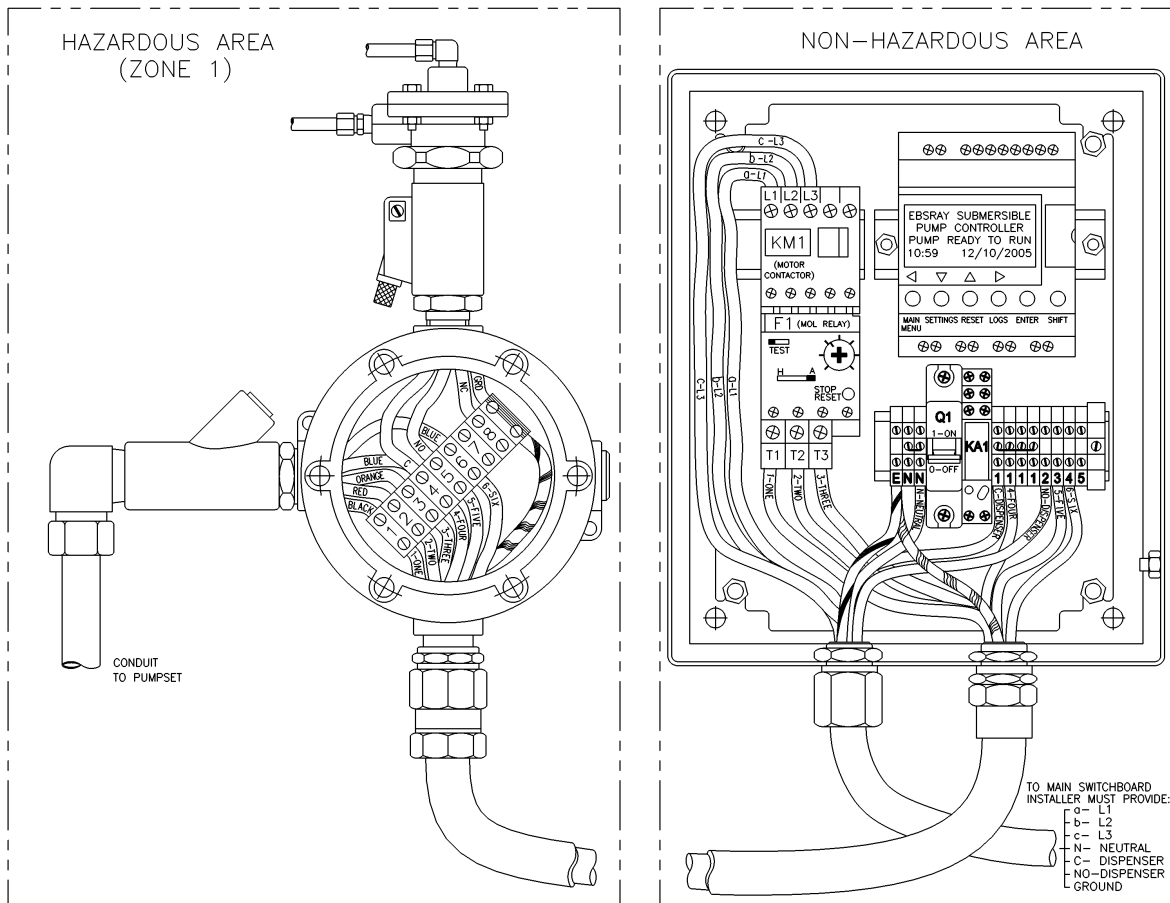

Figure 10
Typical electrical connections are as shown in the accompanying diagrams Figure 10 and Appendix C. Items provided by EBSRAY are suitable for use in the specified intended areas. Ensure that any substitute equipment supplied by others is certified and/or correct for the intended usage and location. Following is a brief description of the electrical wiring installation.
4. Connect leads from cable to terminal strip in Junction Box (See Figure 10) then refit Junction Box Cover and Gasket.
6. The wiring from the Junction Box is connected to the Pump Controller as follows: Cores One (1), Two (2) and (3) are connected to terminals T1, T2 and T3 respectively on the Motor overload relay. Cores Four (4), Five (5) and Six (6) connect to Terminals One (1), Three (3) and Four (4) respectively on the terminal strip in the Pump Controller (Any extra unused cores should be capped off). The ground core is connected to the Earth Terminal.